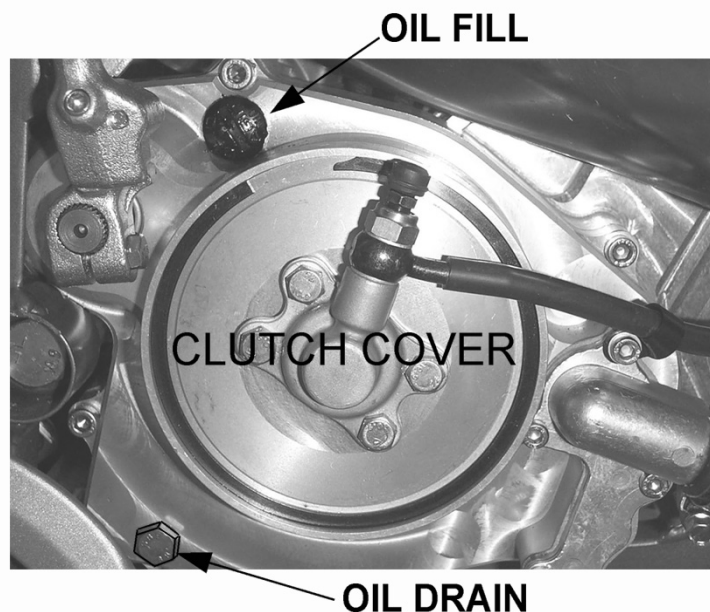

Figure 1
3. Using the 13 mm wrench, remove the oil drain bolt located on the right side of the engine (figure 1).